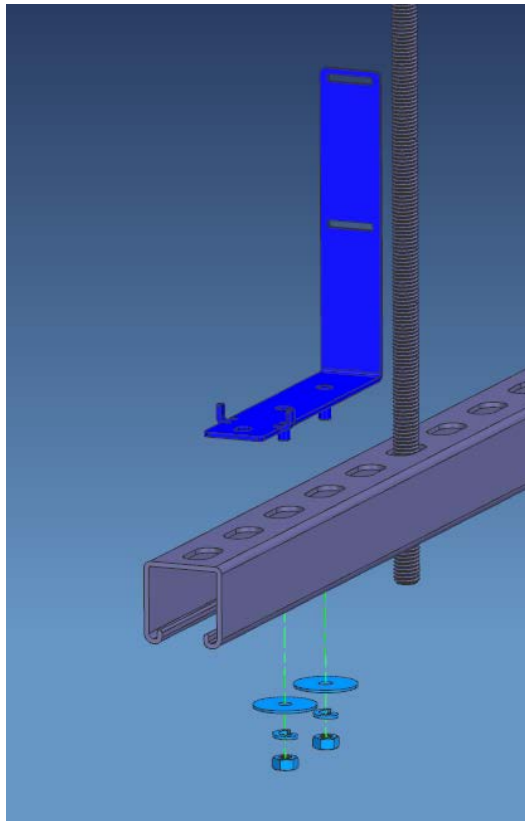

Figure 5 – Base bracket installation (Strut and threaded rod not included)
2. Install base bracket to strut supports using nuts, washers, and lock washers to secure base bracket (Figure 5).